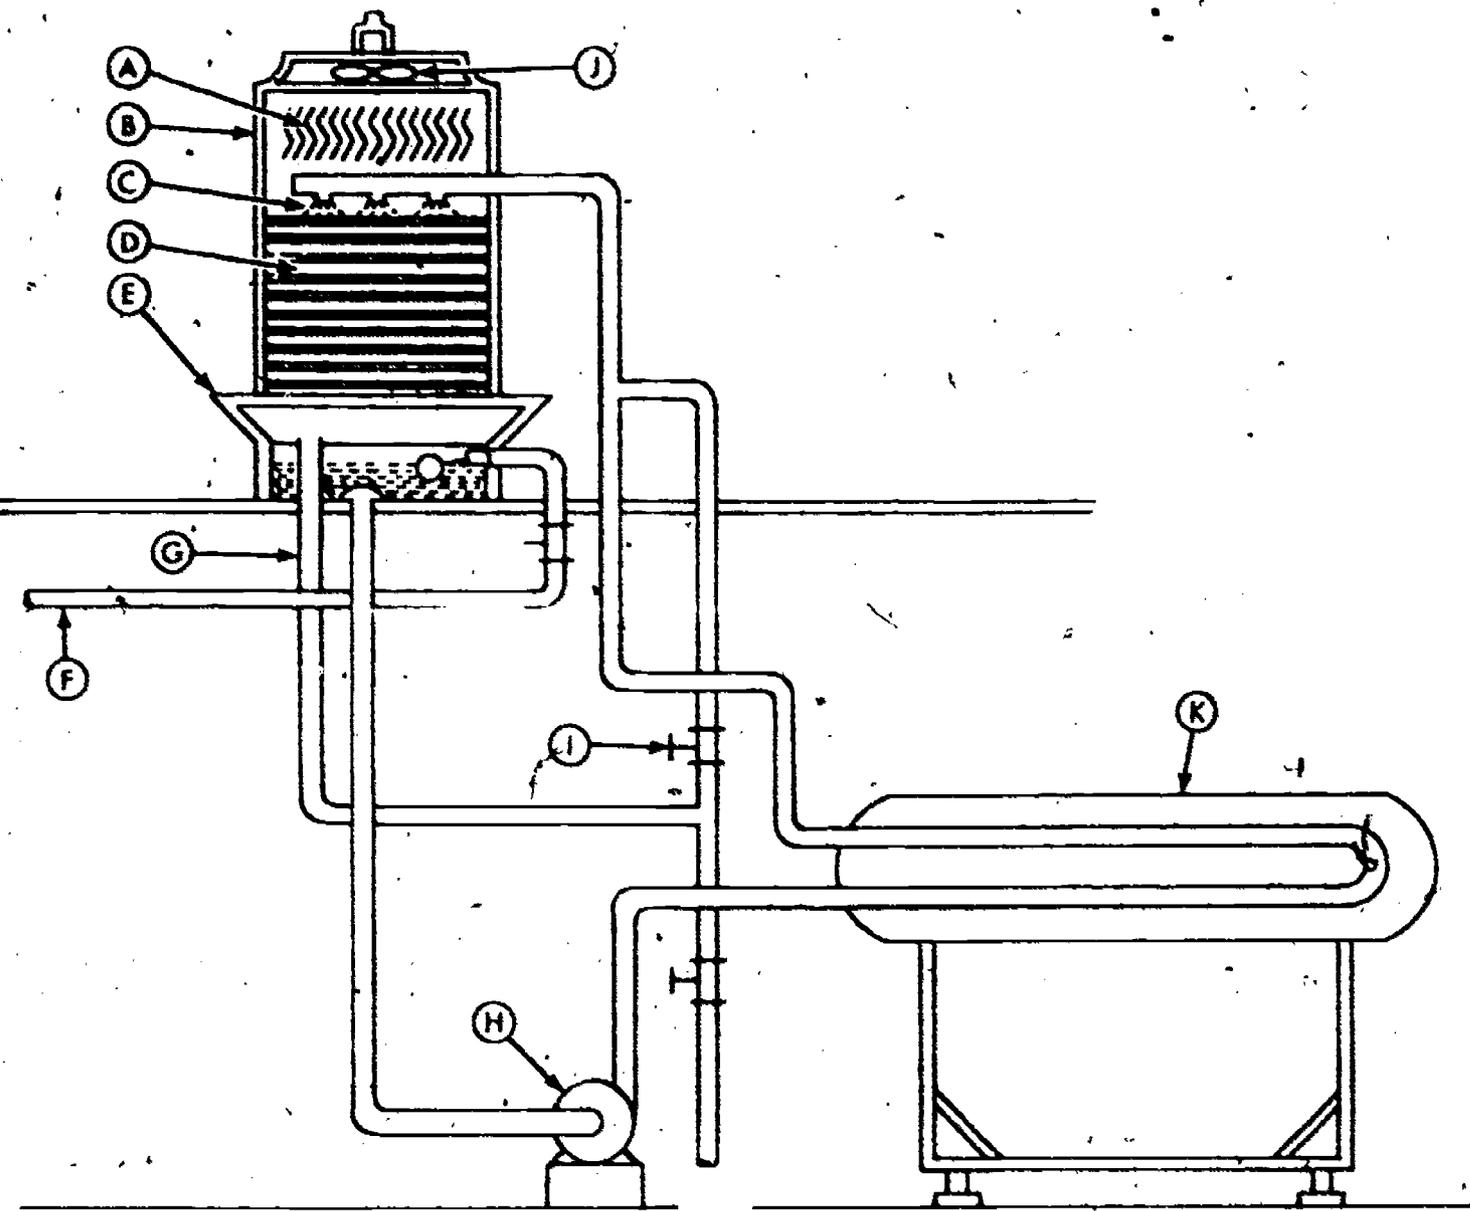

Figure 13. Evaporative Cooling Tower
2. Use the schematic of the cooling tower in figure 13.